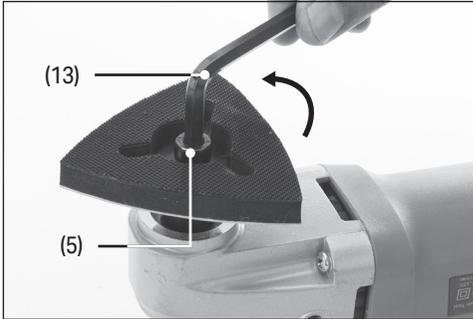
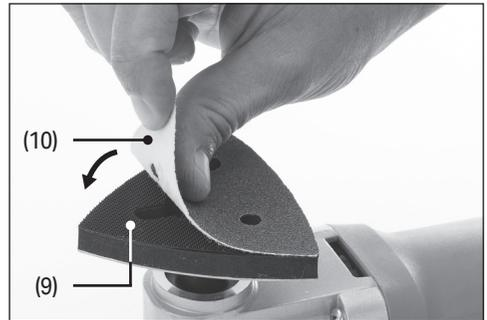

Fig. 5
Fig. 9
6.2 Fitting the Sanding Accessories - Fig.5 -Fig.9